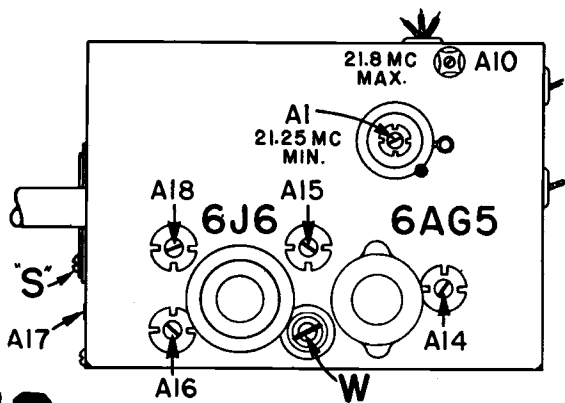

Figure 2-6. Top View of 94C8-2 Tuner.
** See Figures 2-6 and 2-7 for alternate locations of A1 and A10.
- Connect oscilloscope through 10,000 ohm resistor to point "W" (Figure 2-6). Keep oscilloscope leads away from chassis.
- c. When using a signal generator, follow steps (a), (b), (c), (d) under "Individual Channel Adjustments Using Signal Generator and VTVM", then adjust A18 (Figure 2-6) for zero VTVM reading between a positive and a negative peak.
- c. When using a television signal, follow steps (b) and (c) under "Individual Channel Adjustment Using Television Signal", then adjust A18 (Figure 2-6) for best sound and clearly defined picture.